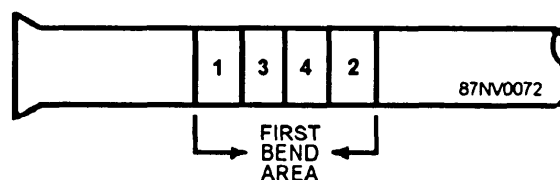

Figure 16-33.—Layout for first 90-degree bend.
2. Divide the first bend area into four segments and mark them as shown in figure 16-33. Use chalk or soapstone to mark the numbers.